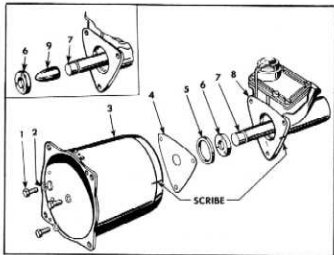

Fig. 17
10. Replace filler cap gasket and filler cap (2).
11. Place assembly tool J-5405 (9) over end of plunger (7). (See inset in figure 17.) Then assemble seal (6) over tool J-5405 onto the plunger with lip of seal toward hydraulic cylinder. Push seal into recess in hydraulic cylinder and remove special tool.
12. Insert new rubber seal ring (5) into recess in hydraulic cylinder (8) and with a new gasket (4) between vacuum cylinder shell (3) and hydraulic cylinder, align assembly scribe marks then install attaching bolts (1) and lockwashers (2). Torque attaching bolts to 5 lb.ft.